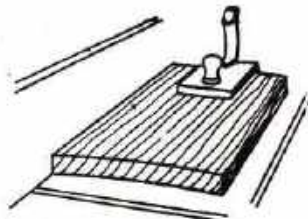

Fig. 659. PLANING A HOLLOW BOARD WITH A PUSH SHOE
3. Check the surface of the board for a warp or a wind (slight twist). The concave (hollow) face should be placed down and planed first. Fig.659.